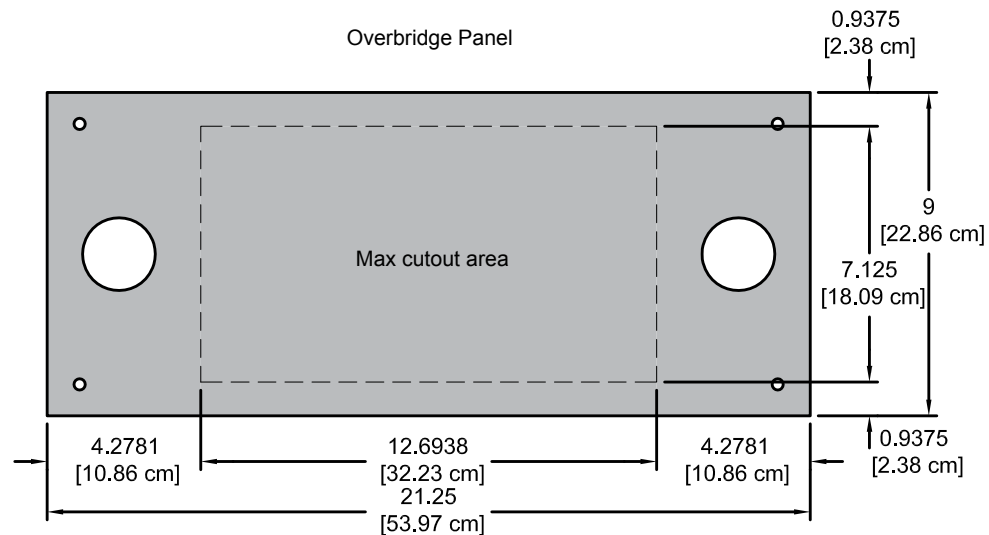

Figure 2.1
1. Before you begin, refer to the panel dimensions in **Figure 2.1** for the maximum recommended cutout size.